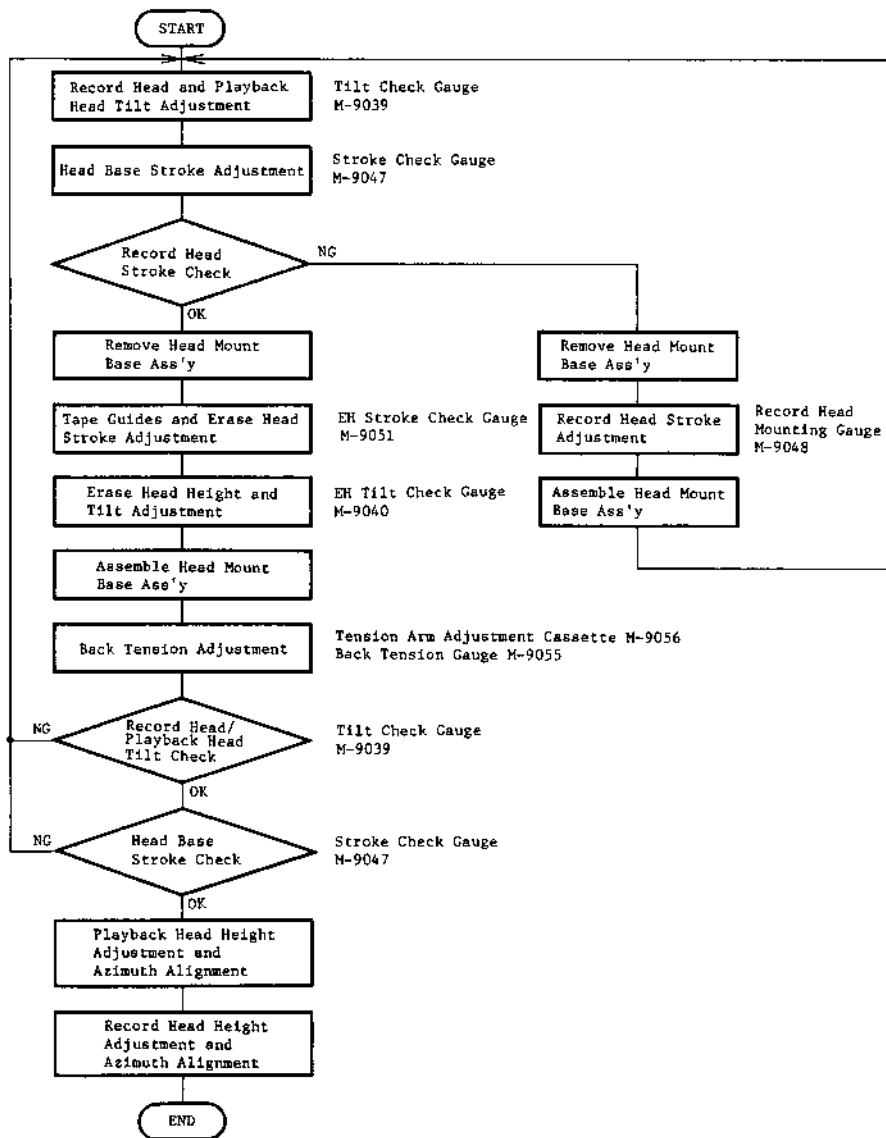
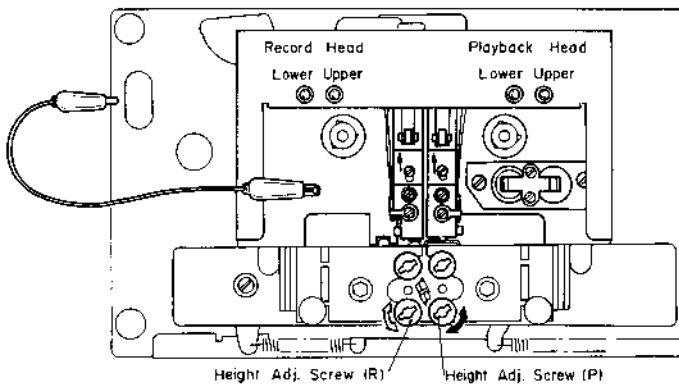

Fig. 4.4
Fig. 4.5
Note: On items 4.3 – 4.9, refer to Fig. 4.4 flow chart. Refer to Figs. 4.5 and 4.6.
- (1) Load a Tilt Check Gauge M-9039 (DA09039A) in the N-582Z.
- (2) Clip the grounding terminal of the Tilt Check Gauge with one end of the cord with clip, and the chassis of the N-582Z with the other end.
- (3) Remove both of the Height Gears.
- (4) Set the N-582Z in Play mode. Check to insure whether the Beacons Playback Head "Upper" or "Lower" and Record Head "Upper" or "Lower" are illuminating. In order not to give damages onto the head surfaces, push both of slide knobs of the Gauge to the direction of arrow marks, then return them to the original place to be in contact with record head and playback head surfaces after Play mode is securely locked.
- (5) Check to insure freedom from contact between the Gauge and pad lifter.
- (6) Beacon Playback Head "Lower" will light on when height adjustment screw (P) turned clockwise but Playback Head "Upper" when counterclockwise. Adjust so that both "Upper" and "Lower" will light on even when you move the slide knobs to the direction of arrow marks and then return them to the original place.
- (7) Same procedures will apply to the Beacons Record Head "Upper" and "Lower", except for the height adjustment screw (R).
- (8) Set the N-582Z in Stop mode and fit both of the serrated height gears. Then set the N-582Z again in Play mode and insure all of the 4 Beacons are illuminating. If not, (3) through (7) will have to be repeated till satisfactory results are obtained.